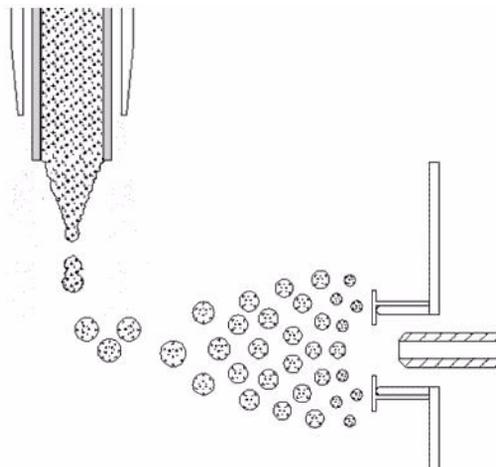

Figure 10 Droplet formation at the needle tip within the spray chamber
- a** Sample solution enters the spray chamber through a grounded needle (*nebulizer*—see Figure 10).